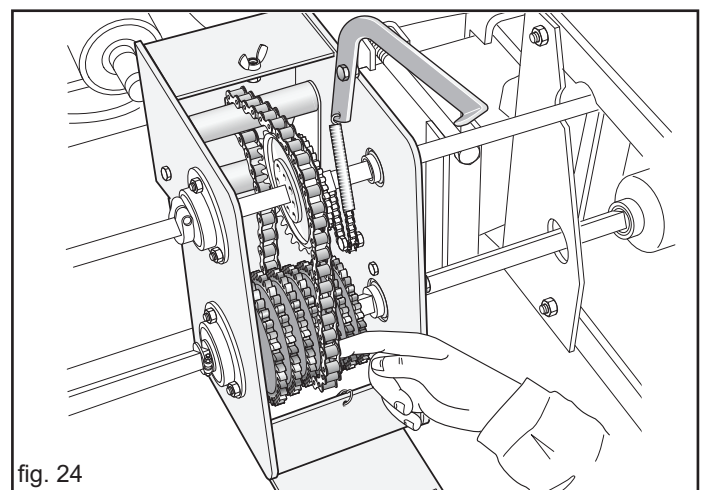

fig. 24
- Place the chain on the located gears and align them (Fig. 24).